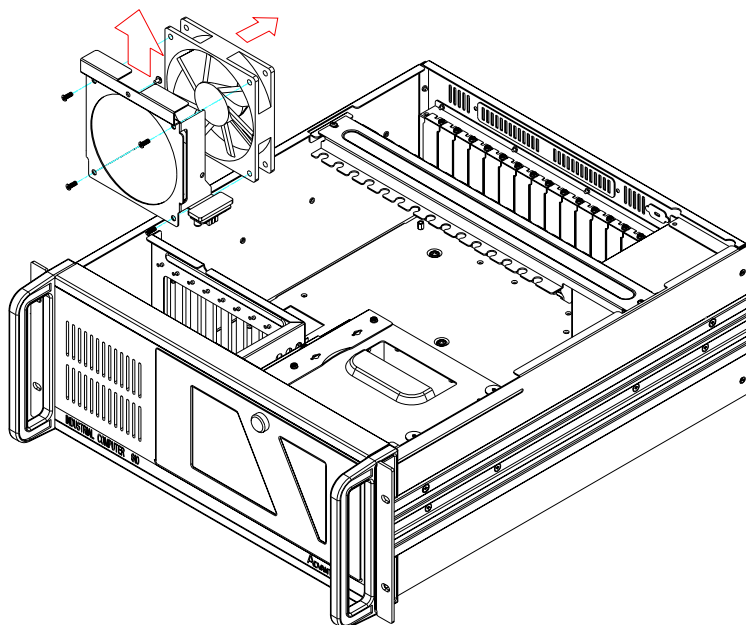

Figure 3.5 Replacing the cooling fan for IPC-610-F
3. Loosen the screws on the fan bracket and remove the fan. (see Figure 3.5)